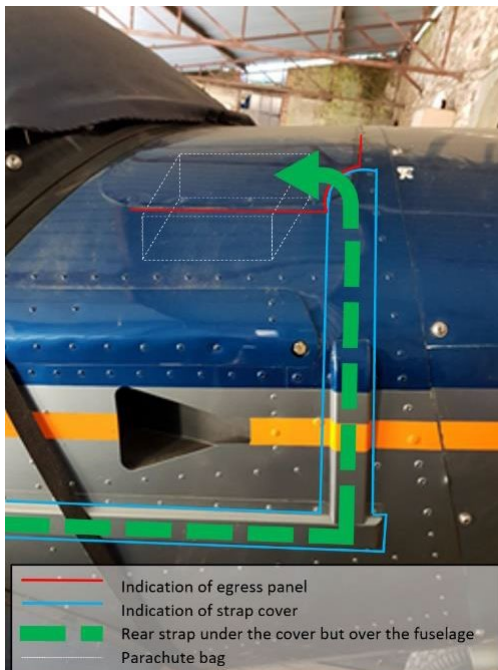

Fig. 2: showing how the correct installation should be like
**COMPLIANCE:** The following actions are rendered mandatory from the date of coming into force of this Airworthiness Directive (AD):
1.- Before the next flight, check the routing of the rear harness into the front parachute compartment, and verify if the rear harness strap cover reaches the front corner of the parachute compartment blow out (egress) panel as shown in Figure 2 and Figure 3 (correct installation);
Fig. 2 illustrates what should be the travel, on the external fuselage skin, of the rear strap into the parachute compartment. It should come inside the compartment through the cut of the blow out panel corner (indicated red on Figure 2, encircled yellow on Figure 3), the panel corner hole being covered and sealed by the end of the harness strap cover that must reach the edge of the blow out panel (indicated blue). This routing allows the rear harness to extend full and freely above the cockpit and, concurrently with the 2 front harnesses, to anchor the parachute around the center of gravity of the airplane, completely under tension.